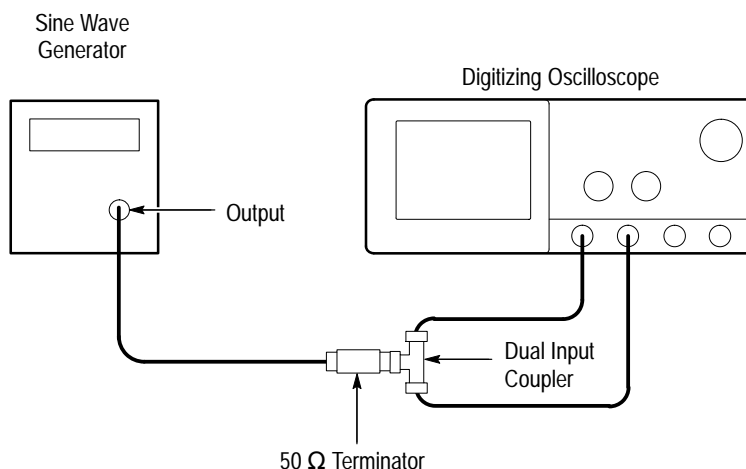

Figure 1–10: Initial Test Hookup
- Connect the sine wave output of a sine wave generator (item 19 or, optionally, 25) to a 50 Ω precision coaxial cable followed by a 50 Ω termination, and a dual-input coupler. See Figure 1–10.
- Connect the coupler to both **CH 1** and **CH 2**. See Figure 1–10.